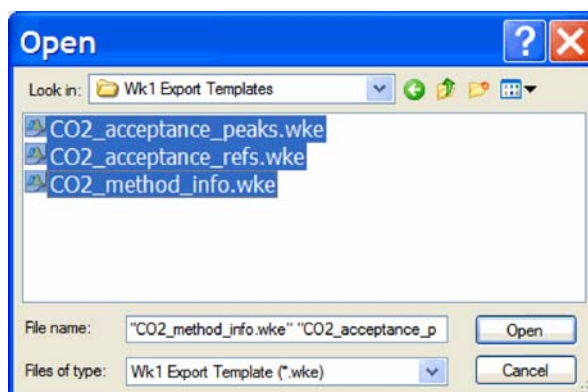
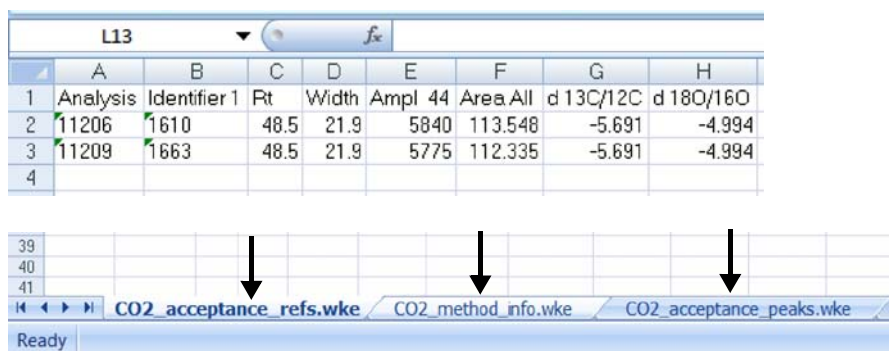

Figure 3-75. Selecting user-defined export templates
Figure 3-80. Exported Excel sheet with three tabs
4. Browse to the WK 1 Export Templates folder. The user-defined export templates are listed as wke-files. Select all of them and click on the **Open** button. See Figure 3-75.
Note The Excel sheet comprises three tabs. This corresponds to the number of wke-templates you selected in Figure 3-75 (three, for example). See arrows in Figure 3-80. ▲